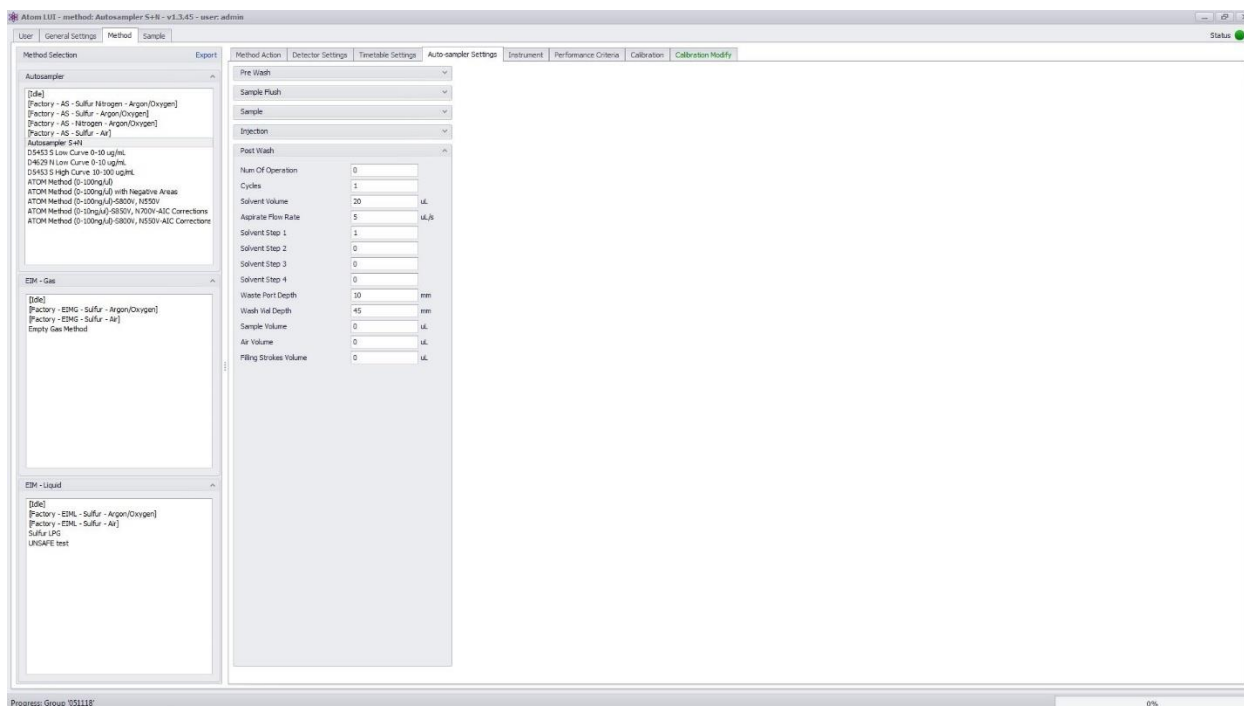

Figure 34 Autosampler Post Wash Menu
- 5) Post wash (Figure 34): Sets syringe solvent wash after injection. *Please note that post wash is performed only when changing sample.*